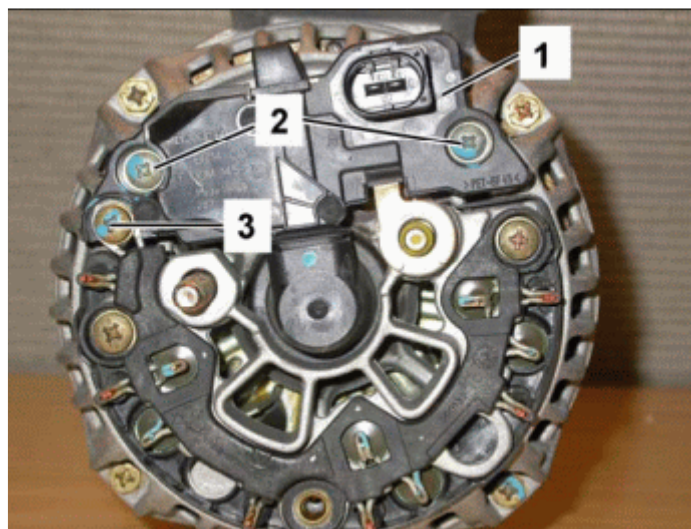

Figure 15
4. Install new voltage regulator (1, Figure 15) and torque Philips head screws to: